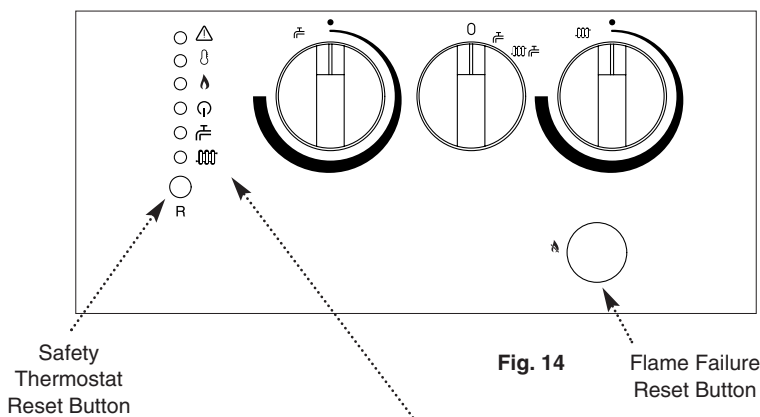

Fig. 14
3. **To reset:** Press the white reset button (below the indicator lights) to relight the boiler (Figs. 14 & 15).
3.7 Flame Failure Reset Button (Fig. 14)